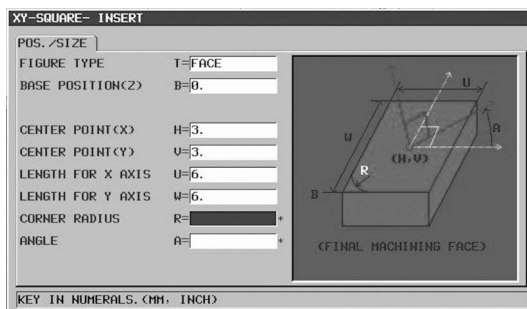

Figure 7-52
- Complete the POS/SIZE dialog as shown in Figure 7-52 and press the INSERT soft key.